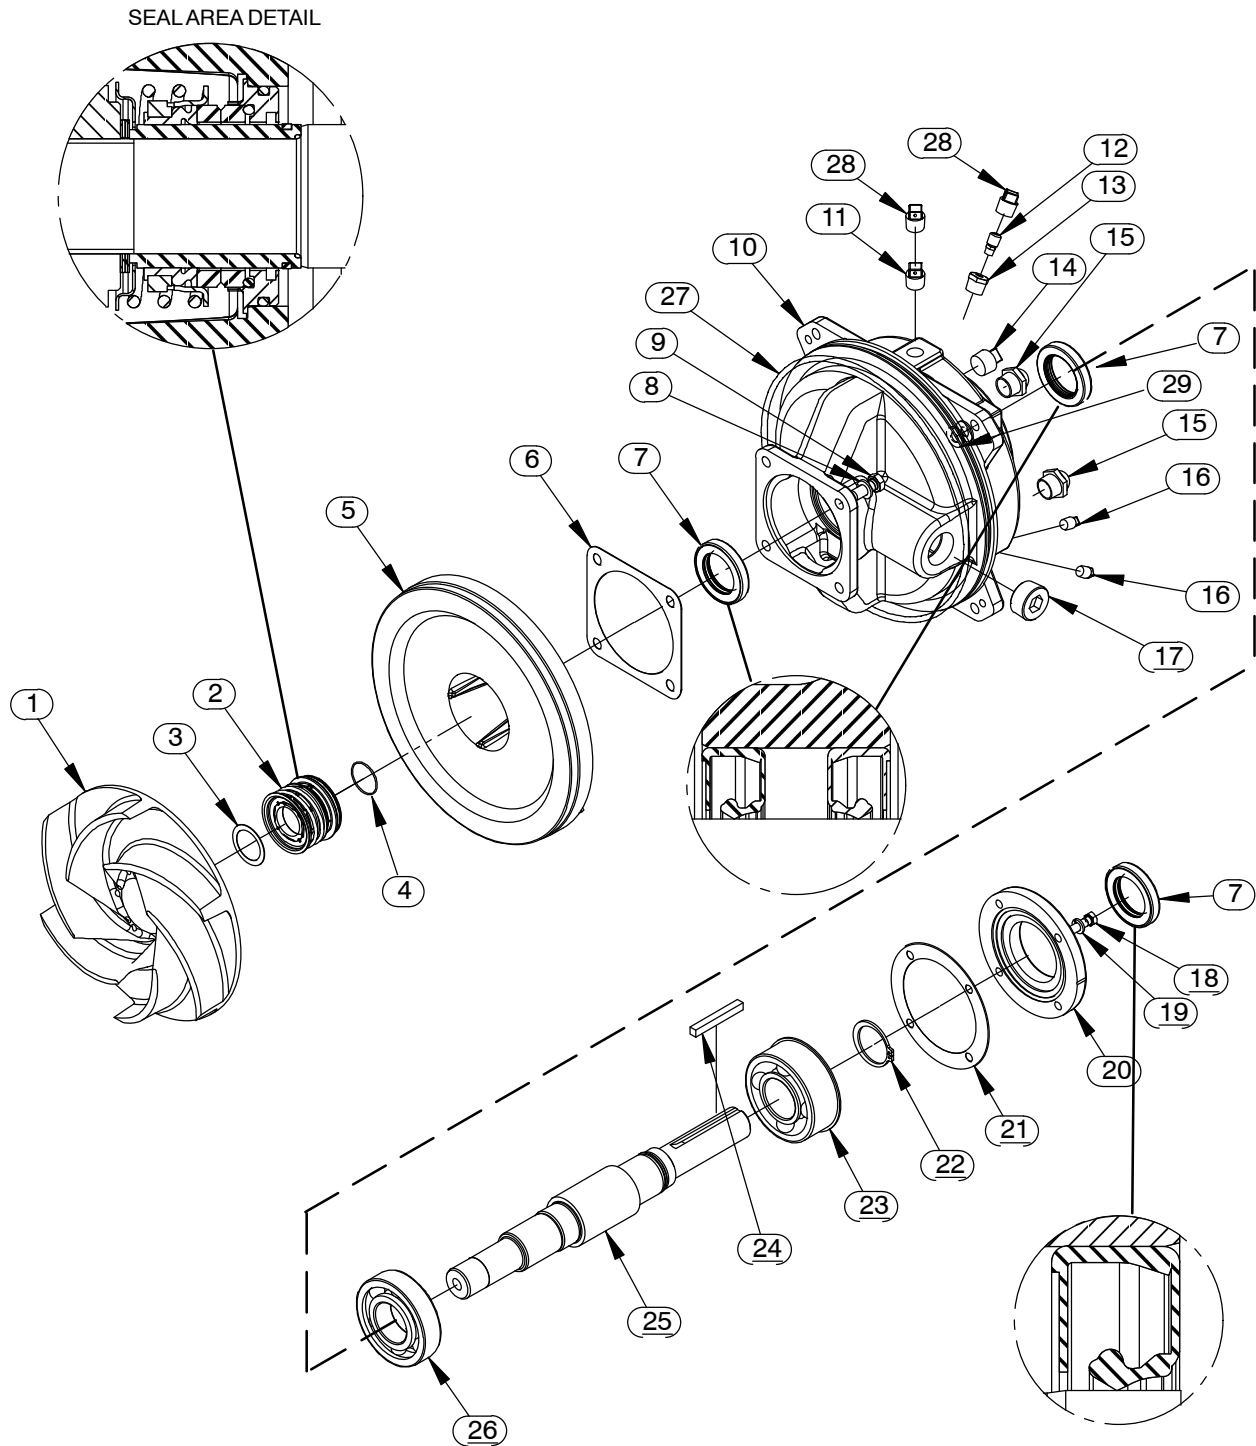

Figure 2. Repair Rotating Assembly
#### (Figure 2)
*To install the tool, remove the vented plug (11, Figure 2) from the bearing housing, and screw the longest length of pipe into the vent hole until fully engaged. Install the tee, and screw the handles into the tee. Use caution when lifting the rotating assembly to avoid injury to personnel or damage to the assembly.*
(Figure 2)